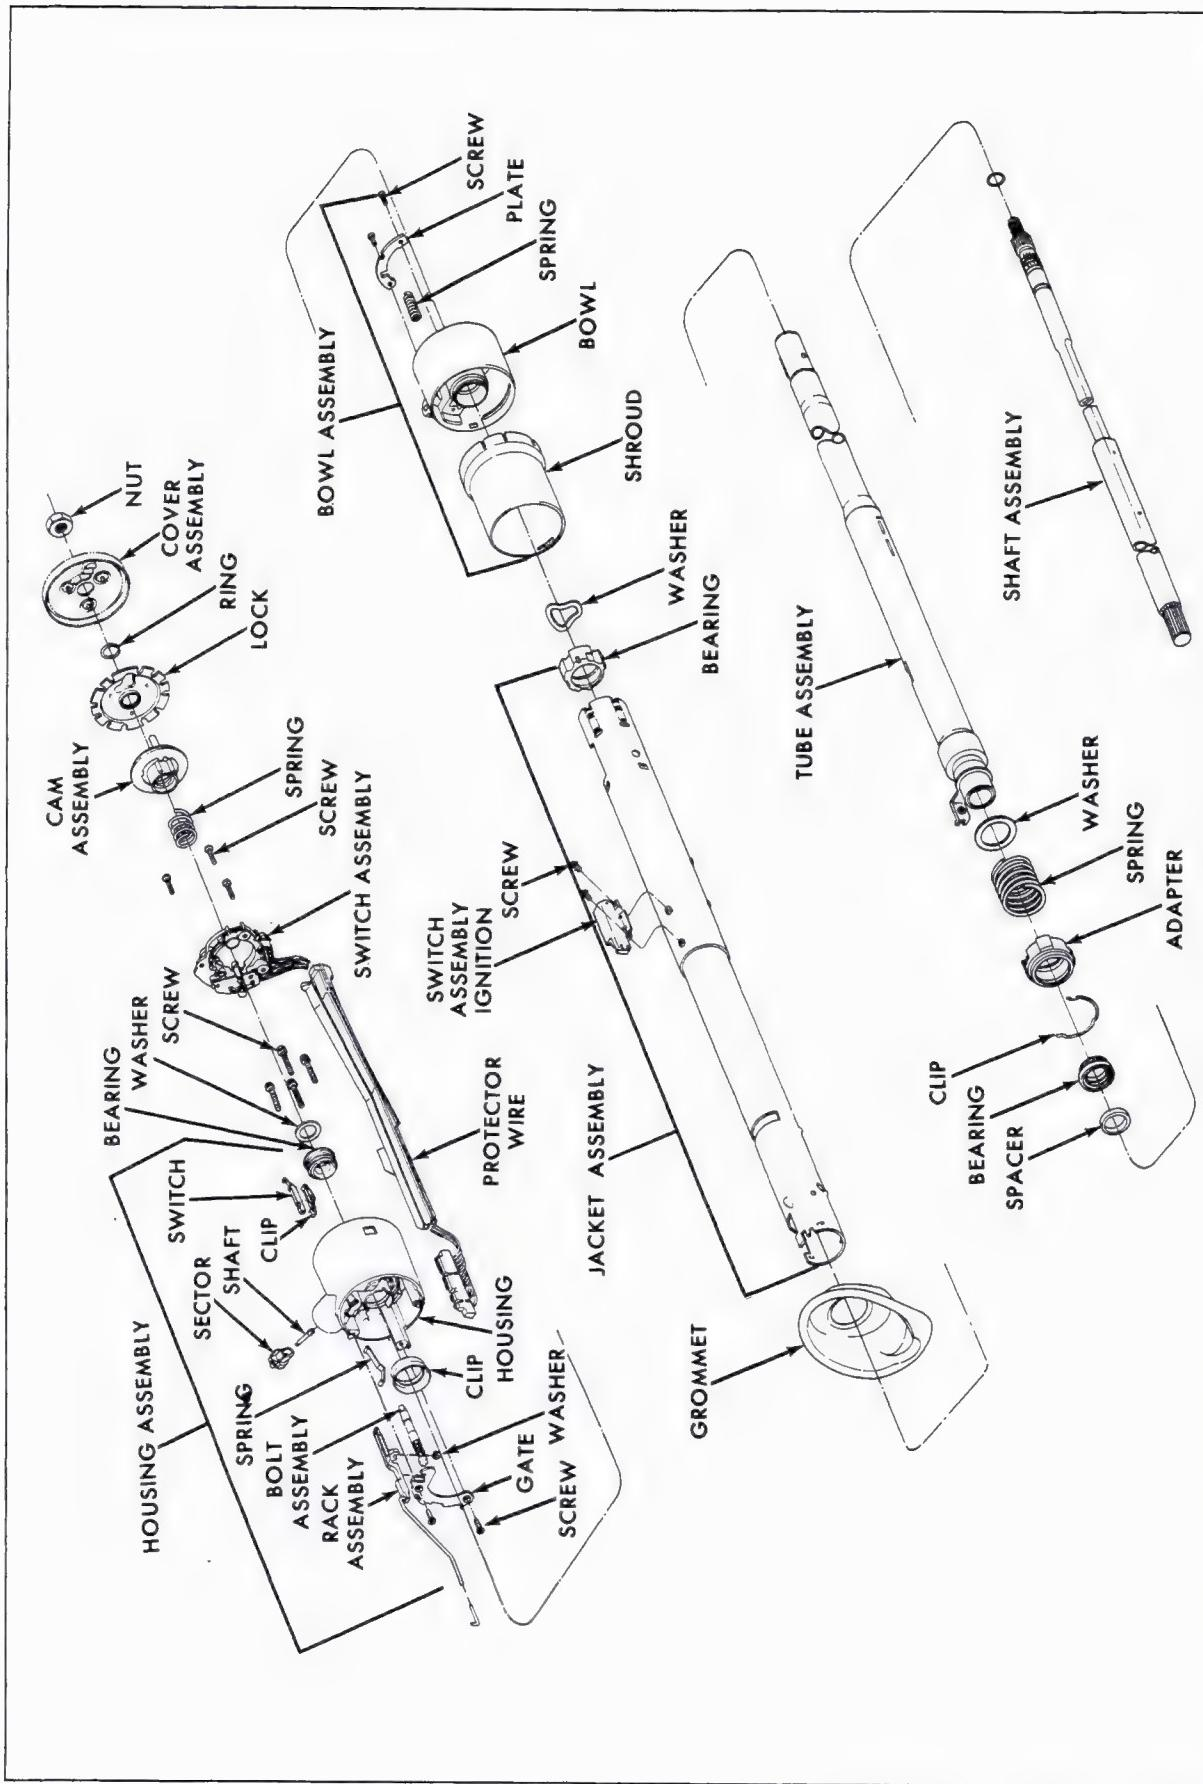

Fig. 9-42 Steering Column Disassembled
20. Standard Steering Column Disassembly, Inspection and Assembly (Fig. 9-42)
(Fig. 9-42) (On Bench)**
f. Upper Housing Assembly (Fig. 9-42) (On Bench)